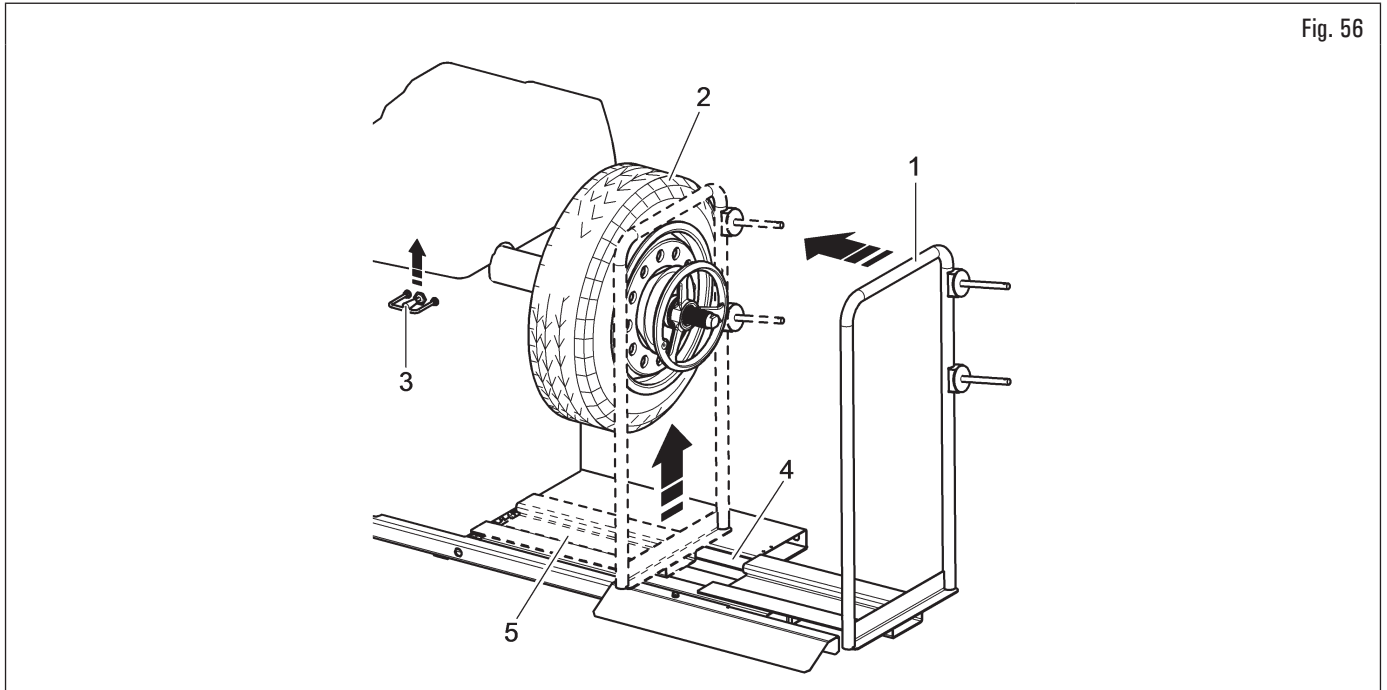

Fig. 56
1. Move the wheel support towards the left (Fig. 56 ref. 1) and bring the wheel support plane (Fig. 56 ref. 5) under the tyre (Fig. 56 ref. 2);
2. lift the lifting device control (Fig. 56 ref. 3) and lift the footboard (Fig. 56 ref. 4) until the wheel support (Fig. 56 ref. 5) comes into contact with the tyre (Fig. 56 ref. 2);